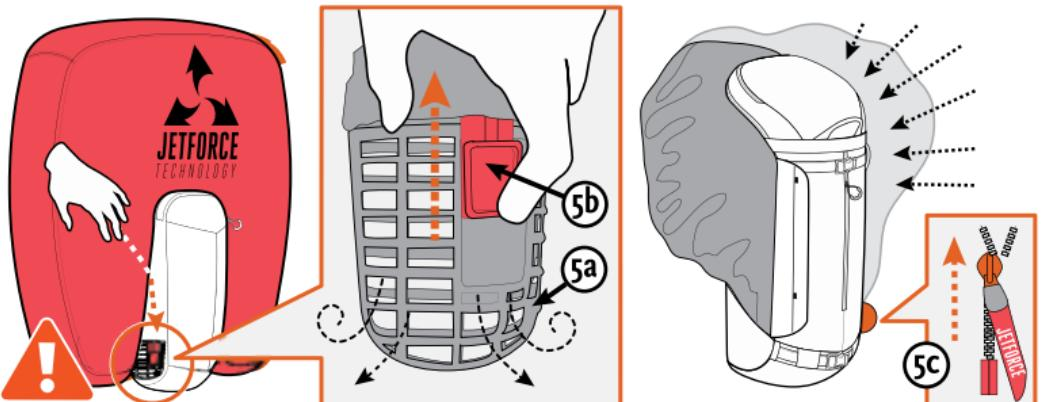

Figure 6
1. The system will flash 1 to 4 blue Charge Status Lights (1f) during arming to indicate the level of battery charge. You may also tap the red Power Button (1d) (less than 2 sec.) at any time to illuminate the Charge Status Lights (1f and Figure 6).